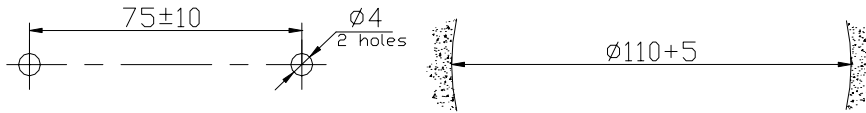

Figure 2 Drilling Pattern
To set the detector to a solid surface (variant **A**) use the mounting base provided (see the drilling pattern in Figure 2). For doing this match the detector mark with the short mark line on the mounting base, and then turn the detector clockwise until the detector mark will be aligned with the mark 3 as shown in Figure 1 (A).